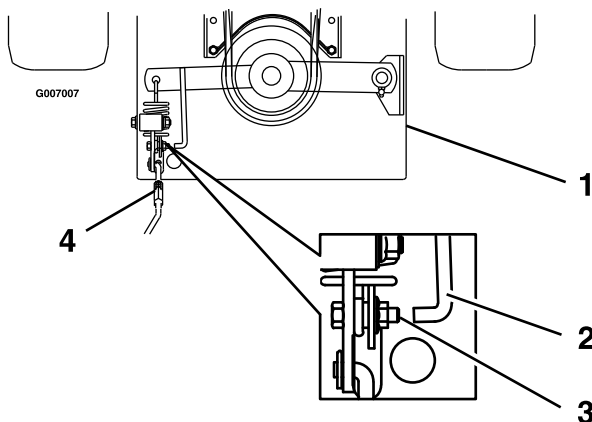

Figure 16
3. Look through the round hole in the left rear corner of the engine deck to inspect blade clutching belt tension. Bolt on blade engagement linkage bellcrank and indicator arm should align within 1/16 inch (1.6 mm) (see Figure 16). Refer to **PTO Engagement Linkage** for adjustment.